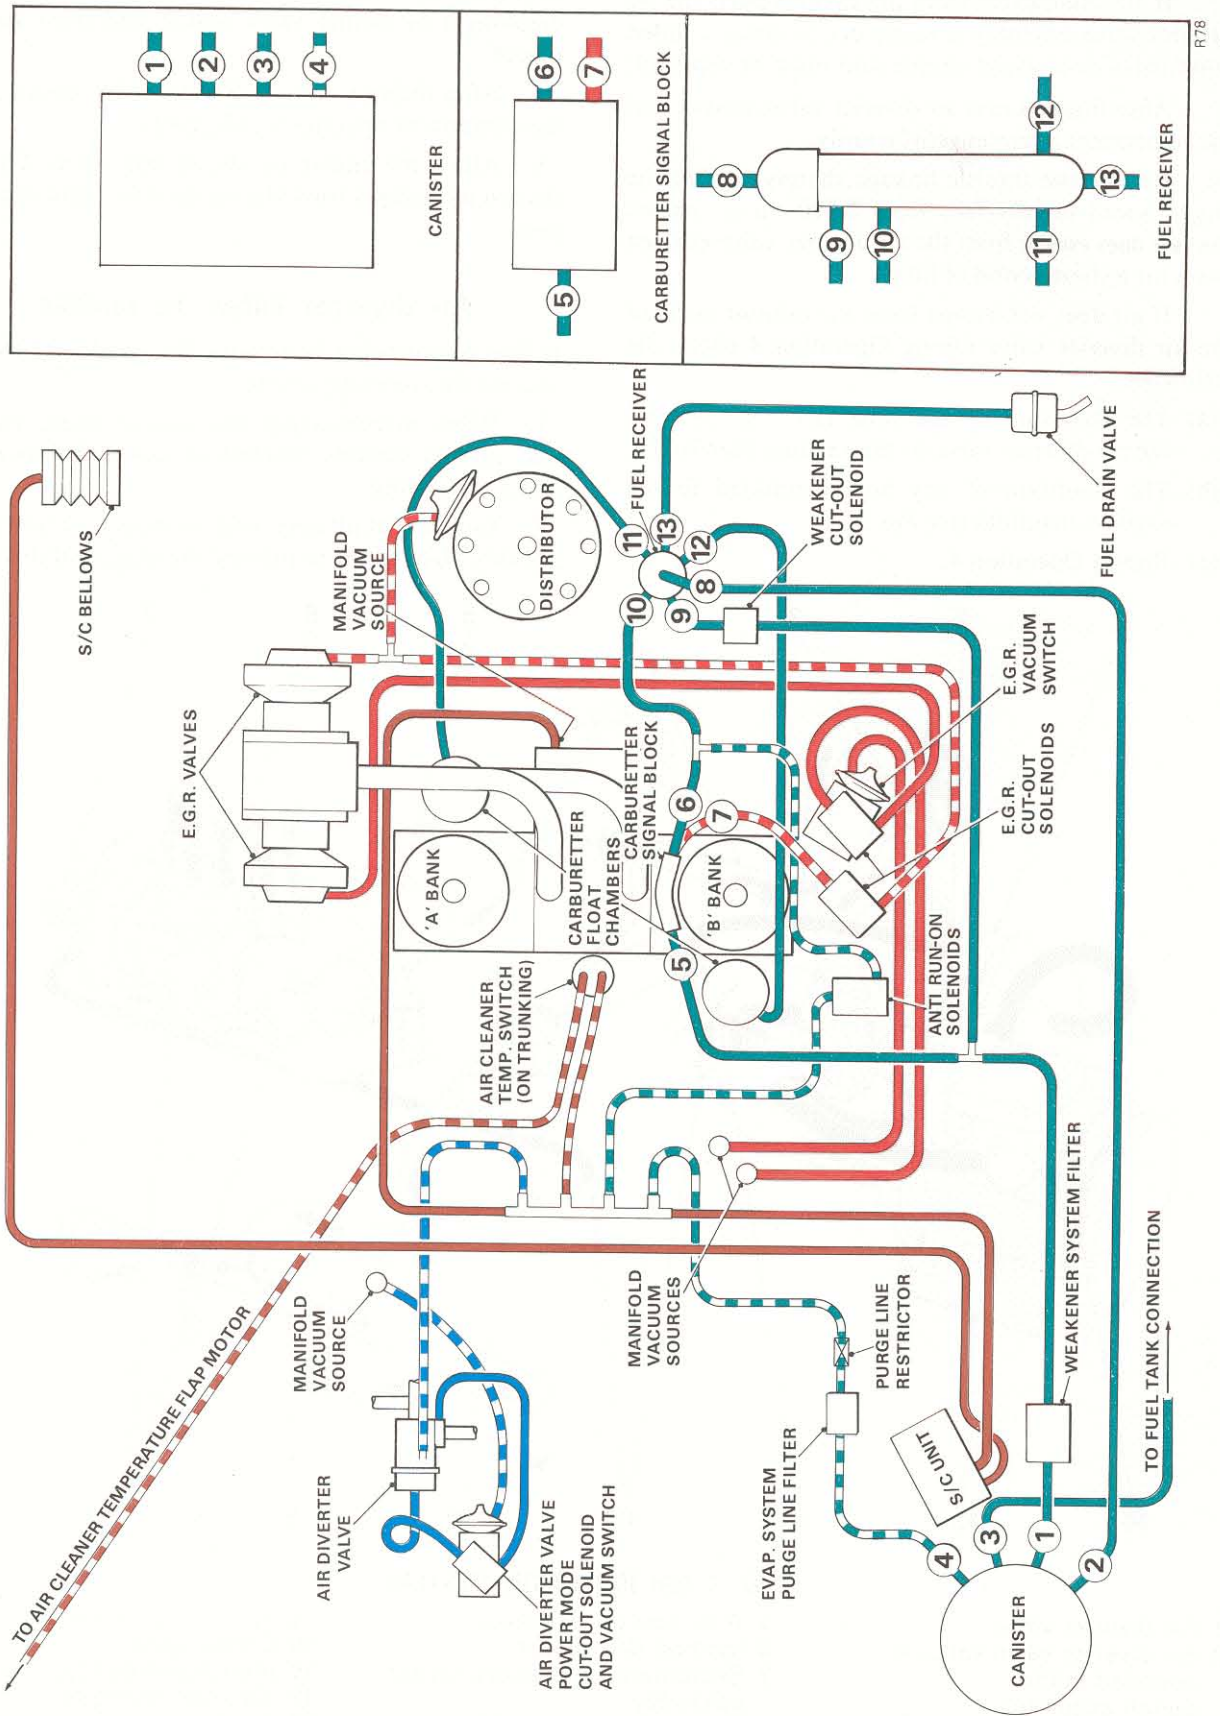

FIG. 5 HOSE ROUTING DIAGRAM—1976 MODELS
- (c) Check the **hose** (*see Fig. 5*) from the air diverter valve cover to the solenoid in the air diverter valve vacuum operated micro-switch assembly, rectify any air leaks.
- The condition of the hose (see Fig. 5) from the air diverter valve to the vacuum manifold.
- The condition of any hose connected to the vacuum manifold (see Fig. 5).